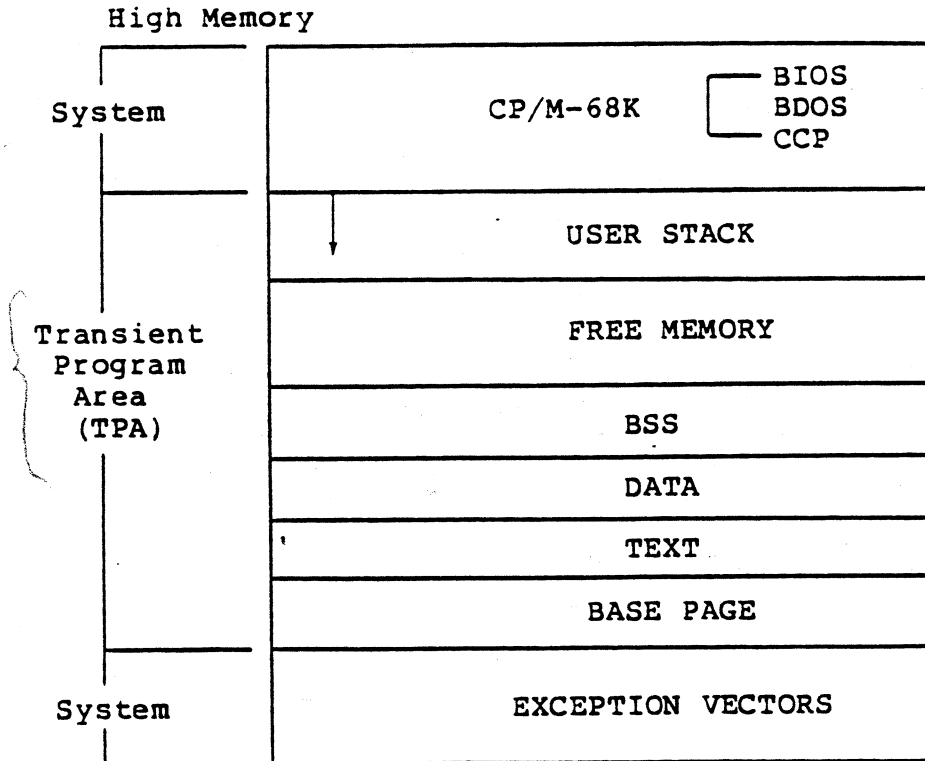

Figure 2-2. CP/M-68K Default Memory Model
The memory model shown in Figure 2-2 illustrates the normal configuration of the CP/M-68K operating system after the CCP loads a transient program. CP/M-68K divides memory in two categories: System and the Transient Program Area (TPA).
The TPA consists of contiguous memory locations that are not occupied by the CP/M-68K operating system. A user stack, a base page, the three program segments: a text segment, an initialized data segment, and a block storage segment (bss) exist for each transient program loaded in the TPA. The BDOS Program Load Function (59) loads a transient program in the TPA. If memory locations are not specified when the transient program is linked, the program is loaded in the TPA as shown in Figure 2-2.